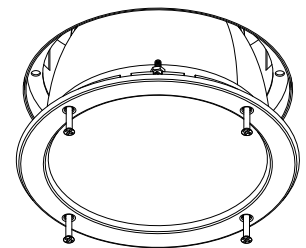

Figure 4
5. For trims with screws, insert the trim into the plaster ring and rotate until the four reflector screws pass into the four holes in the plaster ring. The four trim mounting screws are now aligned with the cage nuts in the plaster ring and may be tightened to secure the trim. See Figure 4.